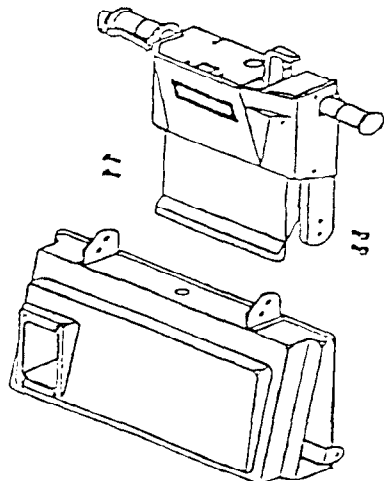

FIG. 2.
2. Mounting the handlebar. (Figure 2)